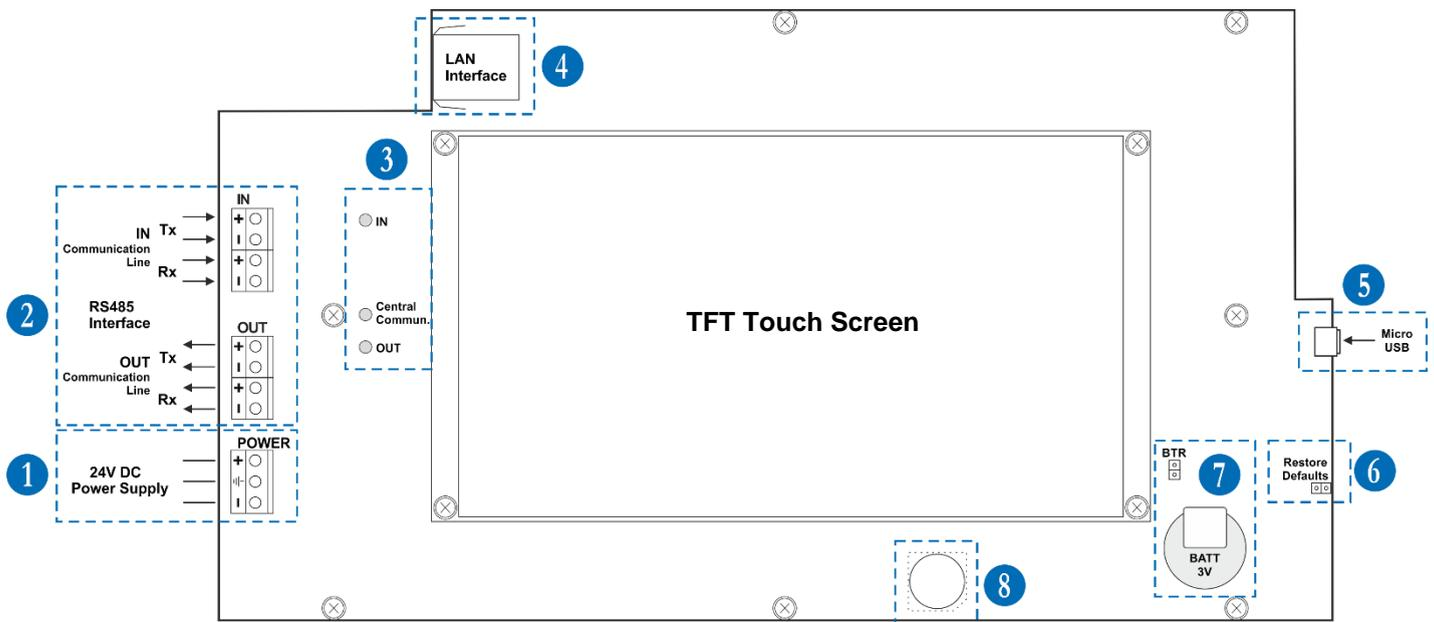

Figure 7
3. Put a jumper on Restore Defaults terminals on the PCB of the Repeater – Figure 7, position 6.
4. Turn on the main and backup power supply of the Repeater. A long sound signal is heard. The screen enters into procedure for hardware calibration of the display. Perform the calibration as follow the detailed description how to do that in item 4.3.3.1.